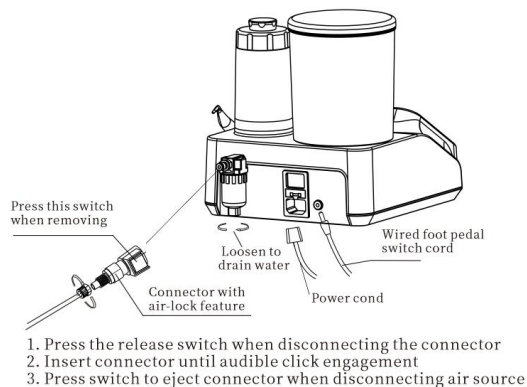

Figure 14
2. Connect the external air hose to the rear air inlet port on the main unit: Press the locking ring first, then insert the fitting. Install powder tank to the slot. (Figure 14, Figure 15)